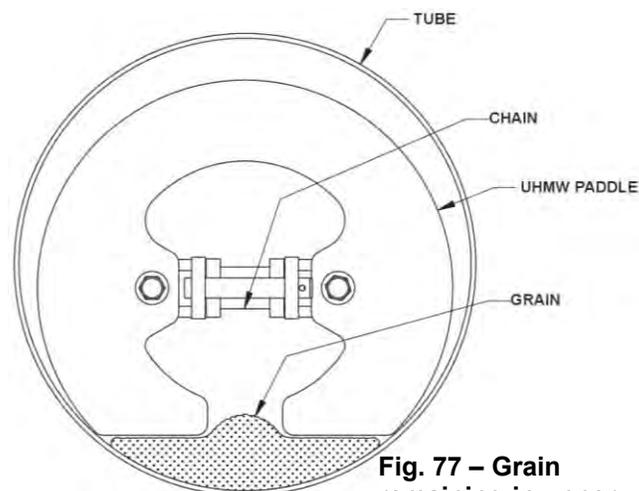

Fig. 77 – Grain remaining in upper tube of loop
**IMPORTANT:** If using loop system for grains that should not be combined, such as genetically modified and organic, entire loop system must be cleaned before switching commodities. Fig. 77 shows where grain commonly remains in upper tube after usage.